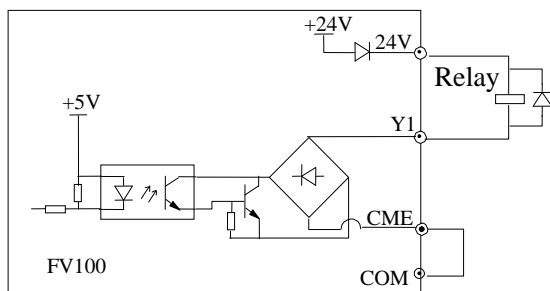
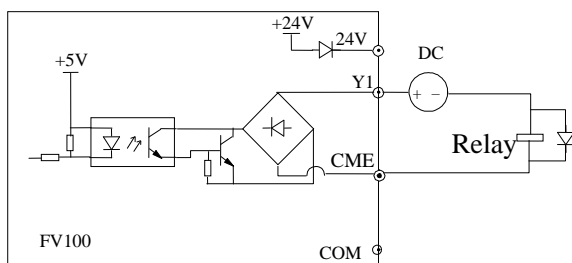

Fig 4-13 Wiring method 1 of multi-function
Fig 4-14 Wiring method 2 of multi-function
1. Multi-function output terminal Y1 can use the internal 24 power supply, the wiring is as shown in Fig.4-13
2. Multi-function output terminal Y1 can use the external 24 power supply too, the wiring is as shown in Fig.4-14.
5. The resistors R in Fig. 4-13 and Fig.4-14 should be removed for 24V input relays, and the resistance of R